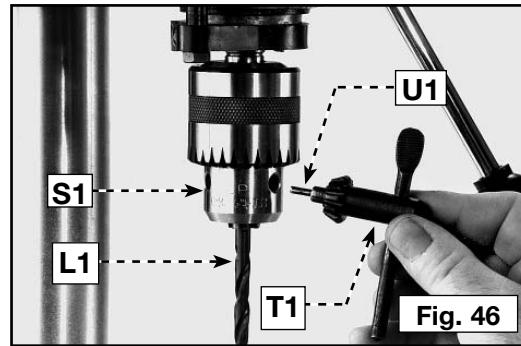

Fig. 46
1. Insert the smooth end of drill bit (L1) Fig. 46 in the chuck (S1) as far as it will go, and then back the bit out 1/16" (1.6 mm) (or up to the flutes for small bits).
2. Center the drill bit (L1) Fig. 46 in the chuck (S1) before tightening the chuck with the key (T1).
3. Turn the chuck key (T1) Fig. 46 clockwise to tighten and counter-clockwise to loosen the chuck jaws.
5. Remove the chuck key (T1) Fig. 46 from the chuck before starting the drill press. The chuck key is equipped with a self-ejecting pin (U1) which helps minimize the potential for the key to be left in the chuck.